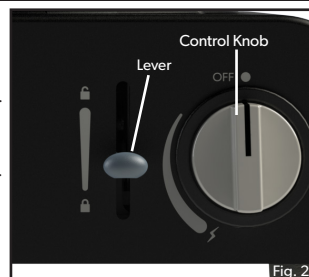

Fig. 2
- Check that the control knob is in the "off" position and that the lever is set to "unlock" (see Fig. 2).
- Lock the cartridge into place by moving the lever to the "lock gas" position (see Fig. 2).
- Unlock the cartridge by moving the lever to the "unlock" position (see Fig. 2).